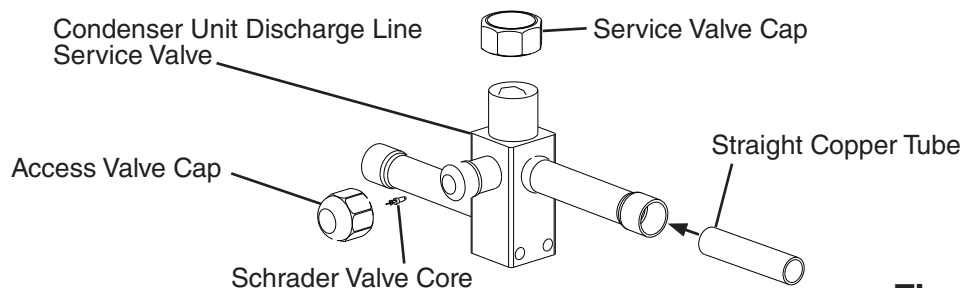

Fig. 10
- 3) Remove the Schrader valve cores from the icemaker service valves. Next, remove the straight copper tube from the icemaker accessory bag and place it in the icemaker liquid line service valve. See Fig. 10. Next, place the liquid line copper tube into the straight copper tube.
- 6) Remove the Schrader valve cores from the condenser unit service valves. Next, remove the straight copper tube from the accessory bag and place it in the condenser unit liquid line service valve. See Fig. 10. Next, place the liquid line copper tube into the straight copper tube.